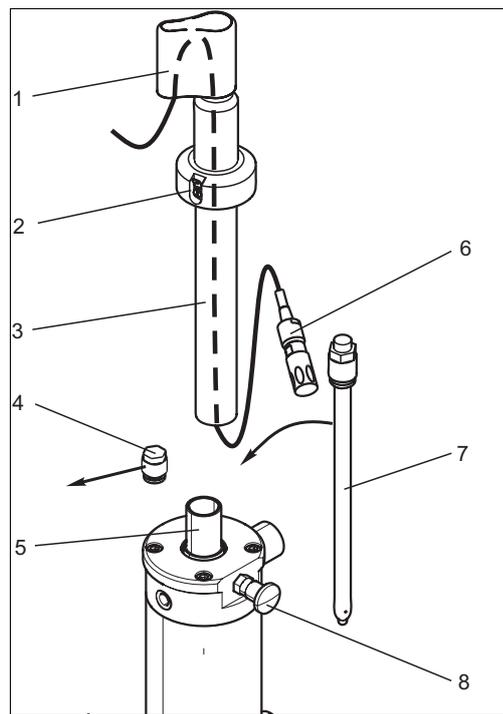

Fig. 15: Sensor installation
1. Remove the splash protection cap (Fig. 15, pos. 1) from the assembly.
2. Take care that the surface of the retractable pipe (pos. 3) is not damaged. The surface is a seal face. Loosen the retractable pipe by turning it counterclockwise.
3. Install the sensor (pos. 7) instead of the dummy plug (pos. 4):
4. Insert the measuring cable (pos. 6) through the retractable pipe :